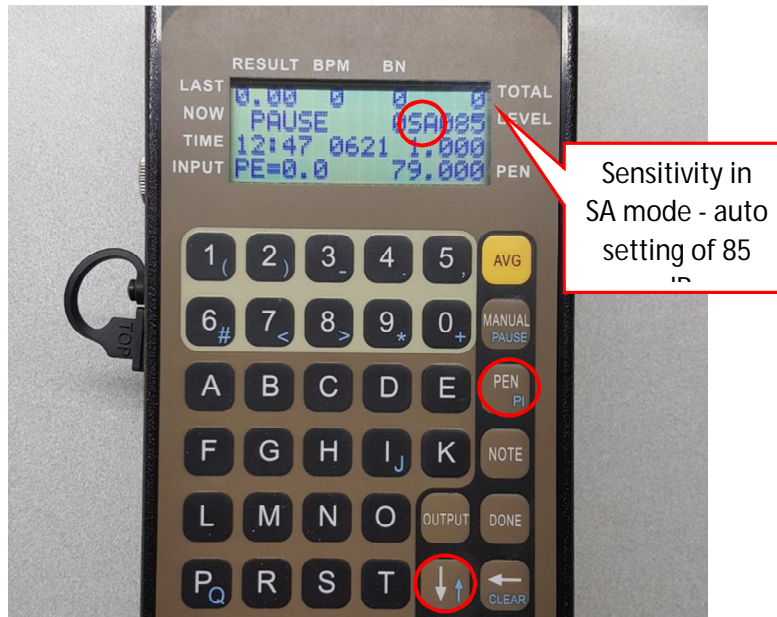

Figure 4. Ready to collect data in PAUSE mode.
3.1. Once finished with the job specific setup screen, the Saximeter will display the data collection screen in PAUSE mode with the sensitivity/trigger set in automatic mode: displayed as sensitivity auto (SA) on the level line (Figure 4).
3.2.1. Figure 4 shows unit set on sensitivity auto (SA) mode. In SA mode, the decibel reading will automatically change to a different value each blow based on factory programmed parameters. It is more common to run in sensitivity manual mode (SM). Select the down arrow once, and Saximeter will change to SM mode while changing the sensitivity setting to a value one lower from what was set in step 2.2.2.2. This value can be adjusted up or down with arrows to the desired setting. As a general rule, large hammers work well between 110-115 dB and smaller hammers work well between 100-110 dB. The sensitivity/trigger can be adjusted while driving with the arrow keys. **General Rule: If blows seem to be counting on their own, then adjust**
3.3.1. Push the PEN button (Figure 4) and enter the LP depth (ft), which is the depth of pile penetration relative to a specific reference elevation. If the pile runs during driving, the PEN key can be pressed to correct penetration depth; however, make note of existing blow number prior to pressing key, because the blow count will zero out at new penetration depth. The blow number noted can be added to corrected penetration depth for pile log sheet entries.